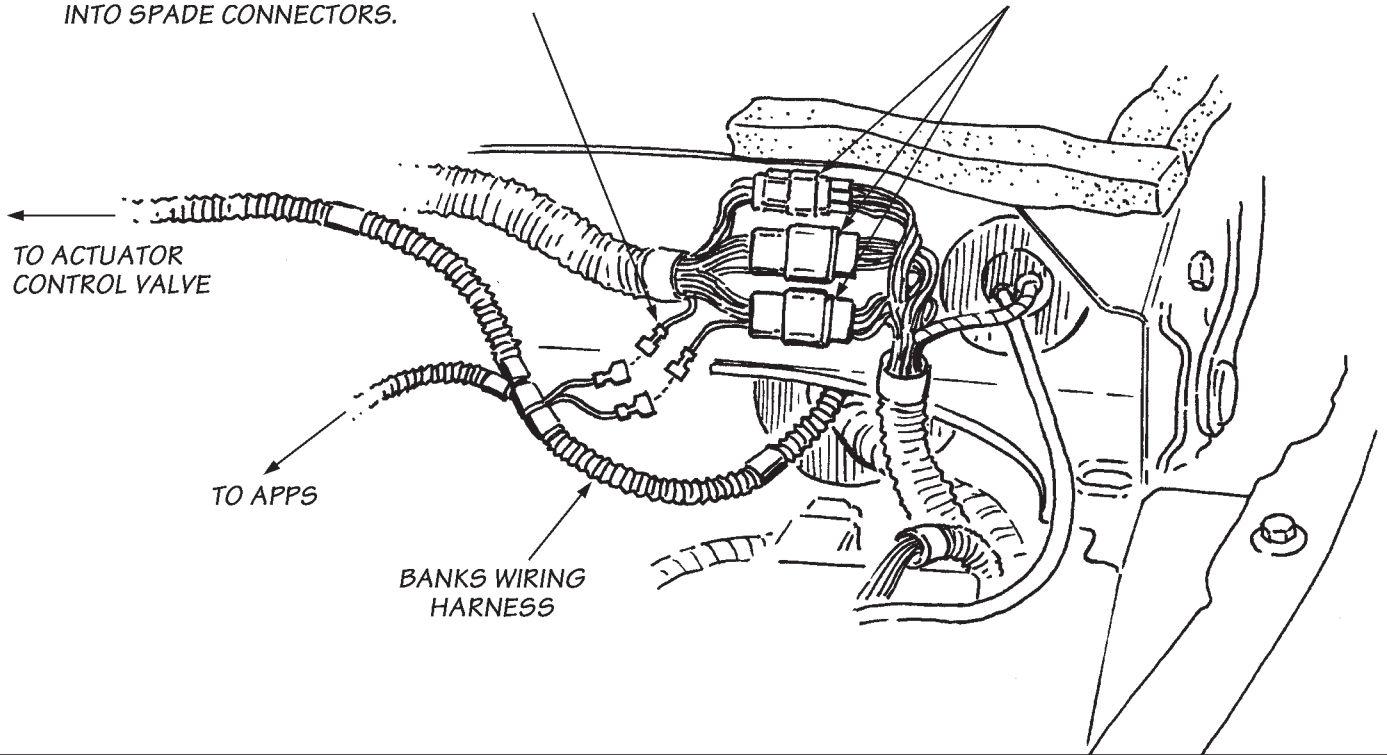

Figure 7
20. Locate the white wire with orange stripe from pin 27 at connector C2 (middle connector). Install a supplied red T-tap onto the wire. See **Figure 7**.